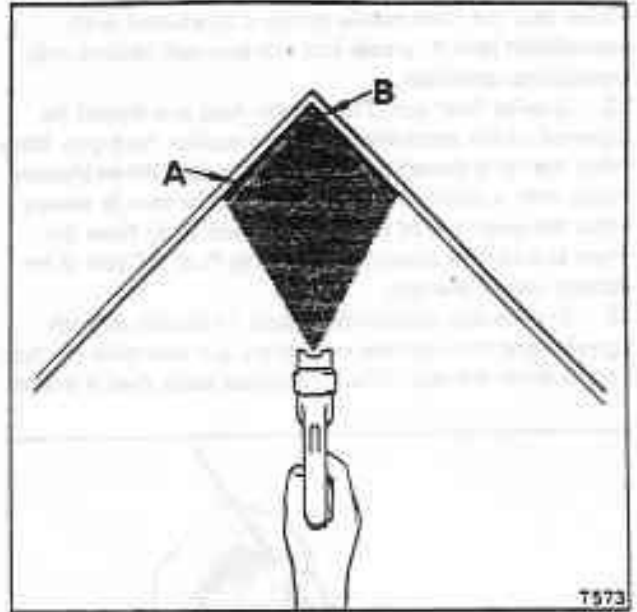

Fig. S17-35 Inside corner spraying
3. Inside corner spraying. There are two methods of spraying an inside corner. The spray gun can be pointed directly into the corner and the two adjacent surfaces sprayed together (see fig. S17-35). The coating will not be uniform, but the technique is fast and satisfactory for most work.